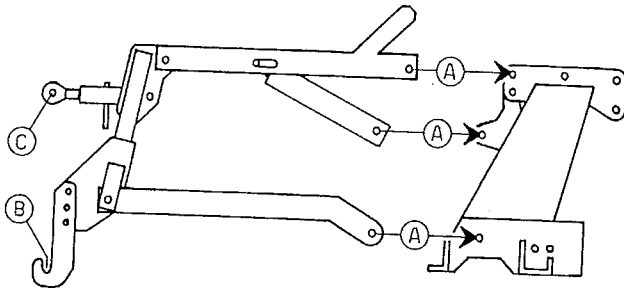
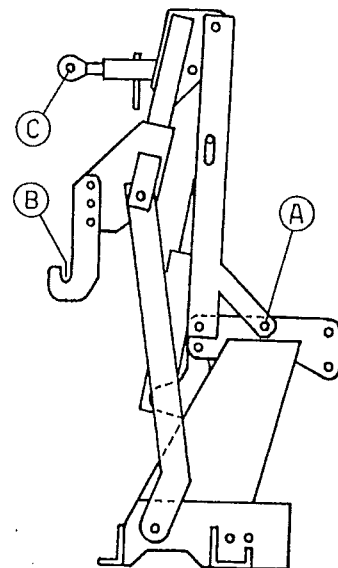

FIG. 3
FIG. 4
The sower hitch, mechanical as well as hydraulic, is fixed to the harrow's 3rd point in 3 positions (**fig.3 pos.A**) by means of dowels and relative split pins. To mount the sower hitch, follow these operations:
In transport conditions, namely, with the hydraulic sower hitch positioned as in **fig.4**, it is compulsory to fix the safety dowel (**fig. 4 pos.A**) in correspondence of the holes provided on the upper part of the harrow's 3rd point.
The sowing machine must be placed in location of the 2 hooks (**fig.4 pos.B and fig.3 pos.B**) and of the adjustable tierod (**fig.4 pos.C and fig.3 pos.C**).
- In working condition, the resultant configuration is similar to that shown on **fig.3**.
- In transport condition the resultant configuration is similar to that shown on **fig.4**.